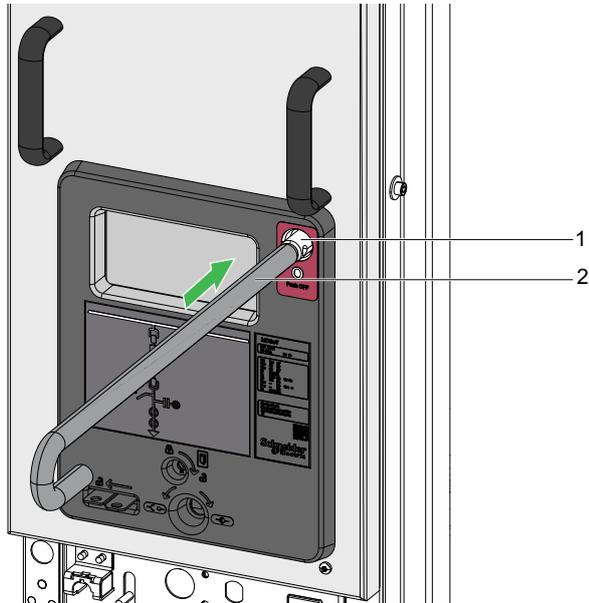

Figure 42
1. Take the push rod (2) from the transport trolley. Refer to Figure 42.
2. Insert the push rod (2) through switch OFF guide (1) of the CVX contactor cubicle front door.
3. Push the switch OFF button with the push rod (2).